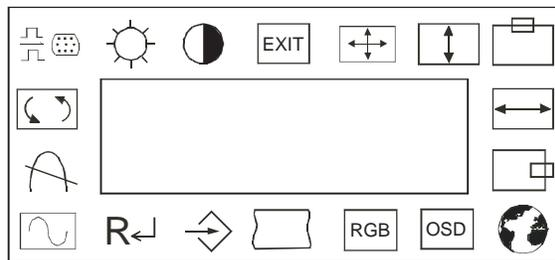

Figure 3.1 OSD Menu
- 2 Turn the **OSD knob** to choose the item you want to adjust. The selected item is highlighted. See figure 3.1 for OSD menu options.